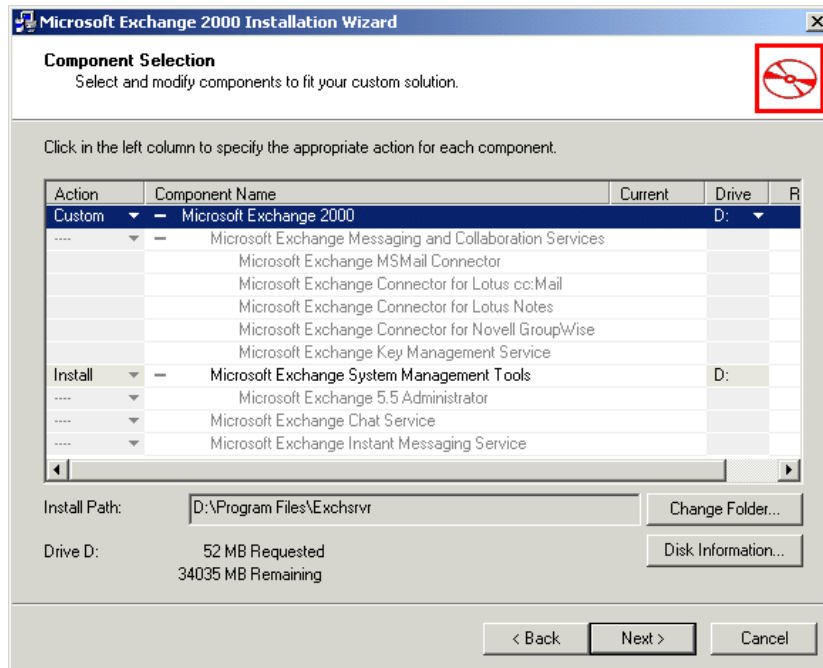

Figure 4-3 Component Selection window
3. Click **I agree** to accept the license agreement. You will see a window similar to Figure 4-3.